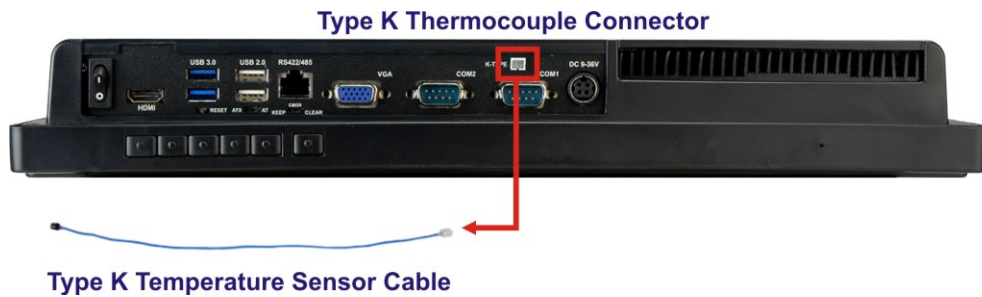

Figure 3-30: Type K Temperature Sensor Installation
Step 1: **Locate the type K connector on the bottom panel.** See **Figure 3-30**.